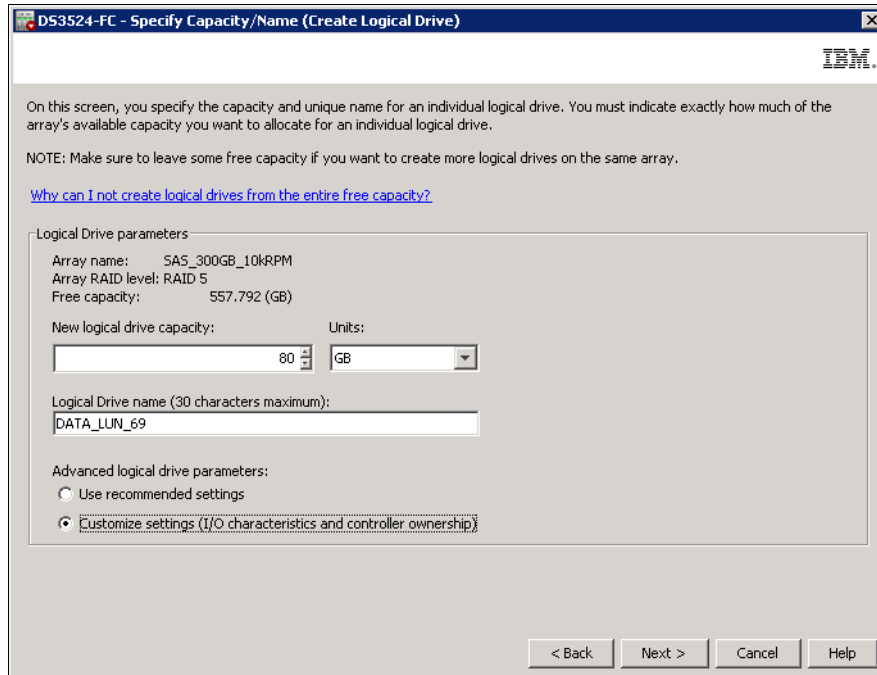

Figure 9-18 Specifying logical drive capacity and name
3. In the Specify Capacity/Name window as shown in Figure 9-18 on page 234, perform the following steps: